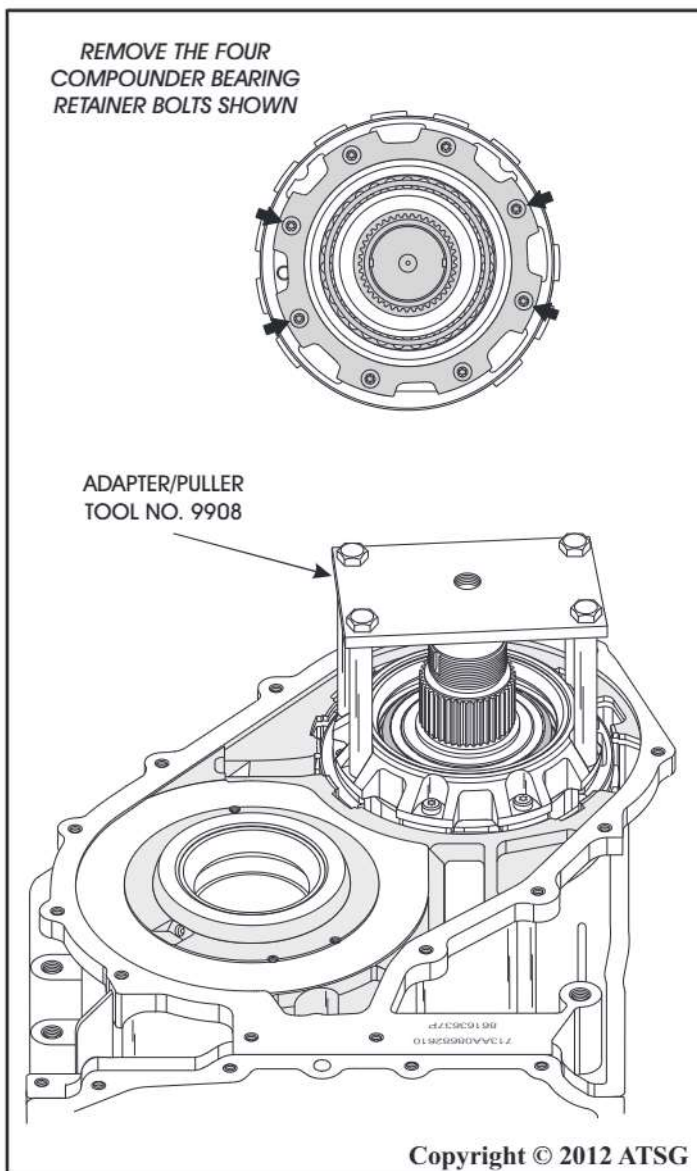

Figure 83
80. Remove the four bolts from the compounder bearing retainer that are shown in Figure 83.
81. Install the adapter/puller tool number 9908 to the compounder assembly (See Figure 83).